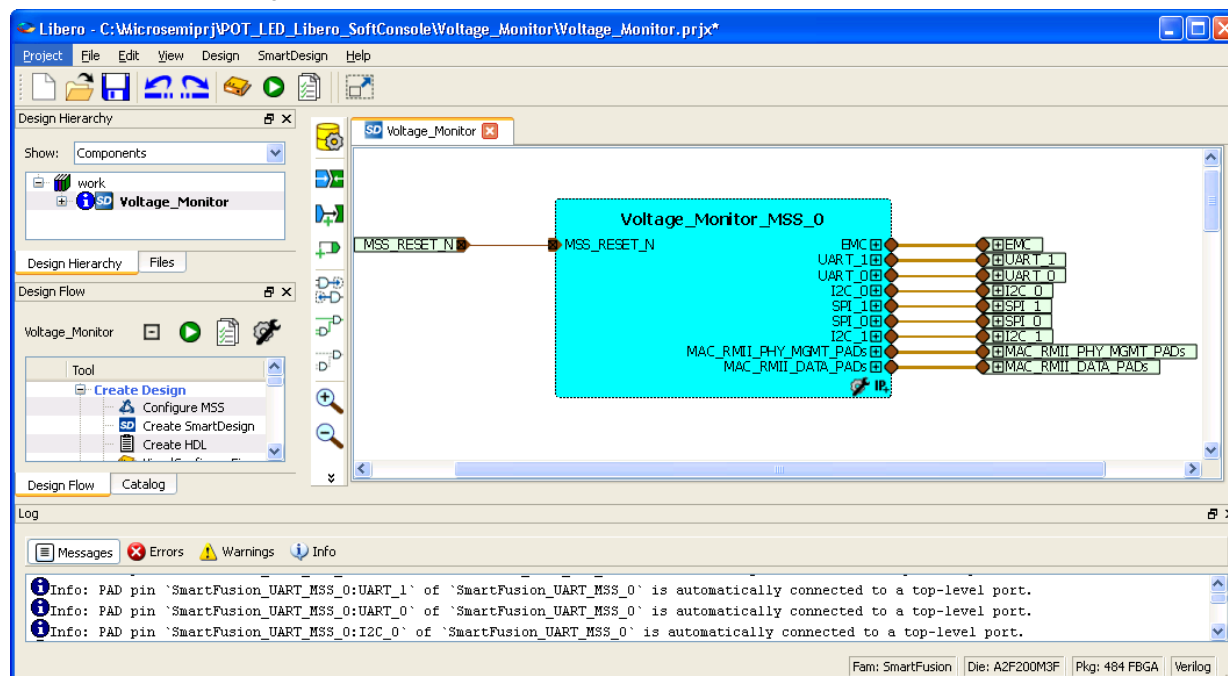

Figure 3 · The Libero Window After Completing New Project Wizard
- The project is created and the Libero SoC window appears as shown in Figure 3 . The SmartDesign "Voltage_Monitor" is created with the instantiation of MSS component.